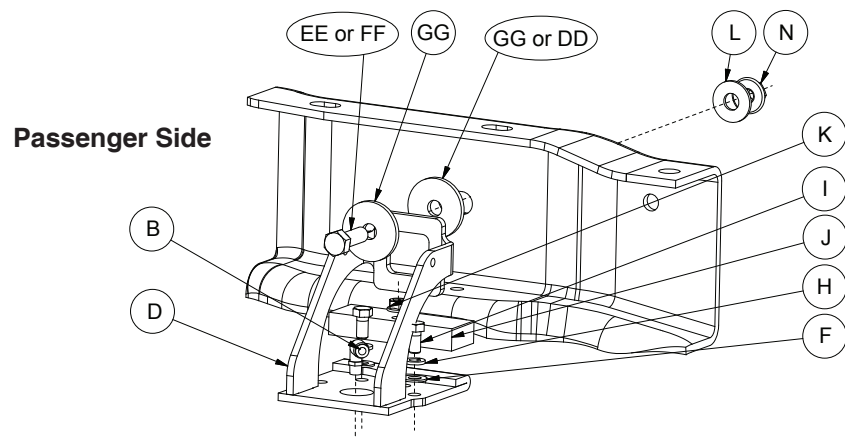

fig. 2b
2. Upper bracket 07993 (E) goes onto the driver side frame rail (fig. 2a) and upper bracket 07148 (D) goes onto the passenger side frame rail (fig. 2b). Set the assemblies into position under the frame., above the axle, and insert the carriage bolt (G) through the exiting jounce bumper hole for both sides.
2. Insert a large 1/2" flat washer (GG) or 3/4" flat washer (DD) if using 3/4" existing fifth wheel hitch hardware, between the upper bracket and frame. It may be necessary to pry the upper bracket away from the frame slightly to make it easier to insert.
3. Attach the upper bracket brace by using the existing hardware from the fifth wheel bracket installation that was previously removed, or the 1/2-13 X 1.50" bolt (EE) if you have the in bed hitch option from Ford, or the 1/2-13 X 3" bolt (if no fifth wheel or in bed hitch option was used) and a large 1/2" flat washer (L). Insert the bolt and washer through the upper bracket, through the large washer between the bracket and frame from the inside out and cap with a flat washer (L) and 1/2" serrated flange lock nut (N) (fig. 2b). Tighten securely.